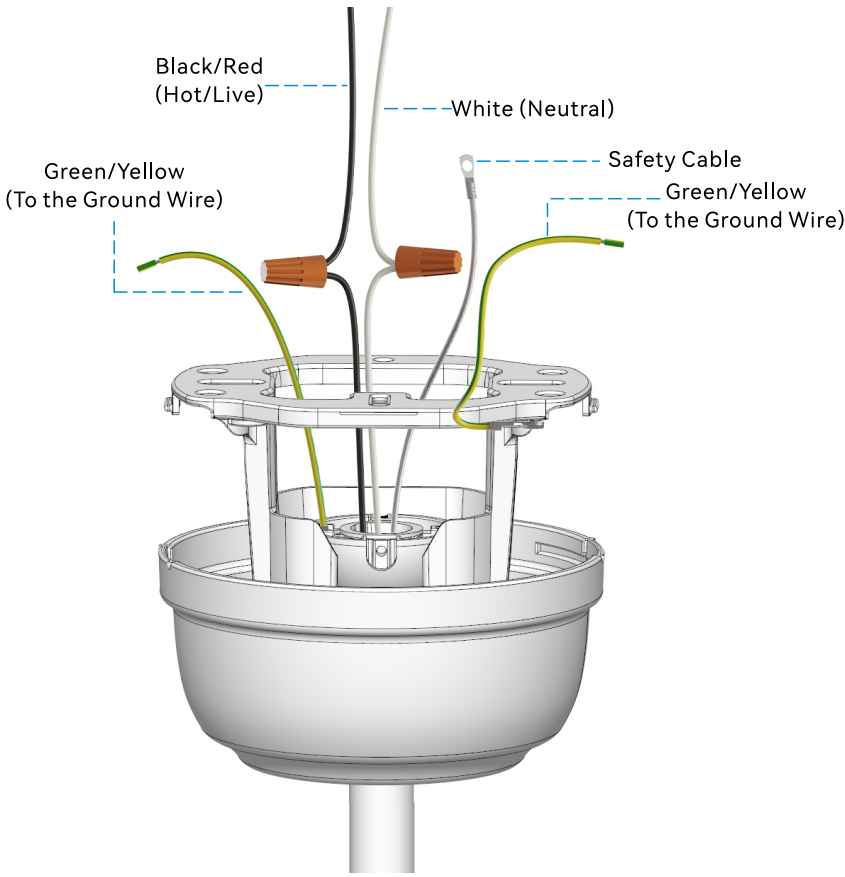

Fig. 7.1
- Make sure all the wires are connected to the correct colors as shown in Fig. 7.1. Then, hide the wiring inside the ceiling.